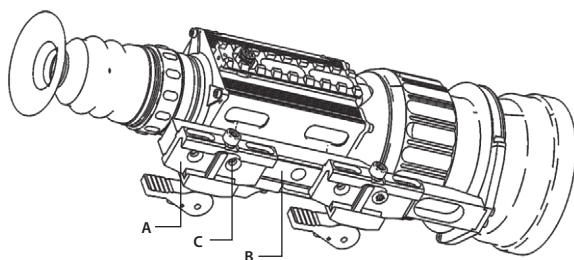

FIGURE 3-4. MOUNT ASSEMBLING
The Zeus PRO comes fully-assembled with a two Picatinny/Weaver mount (Figure 3-4). The mount (A) is attached to the scope seating rail (B) with two flathead socket cap screws (C).